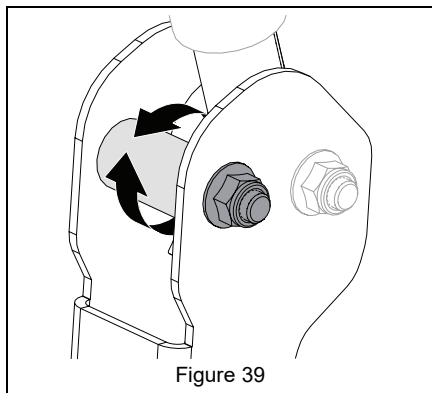

Figure 39
6. Turn eccentric spacer so levers are at the same height and have a 1.3 cm – 2.5 cm (1/2" – 1") gap between lever ends. See Figure 39.